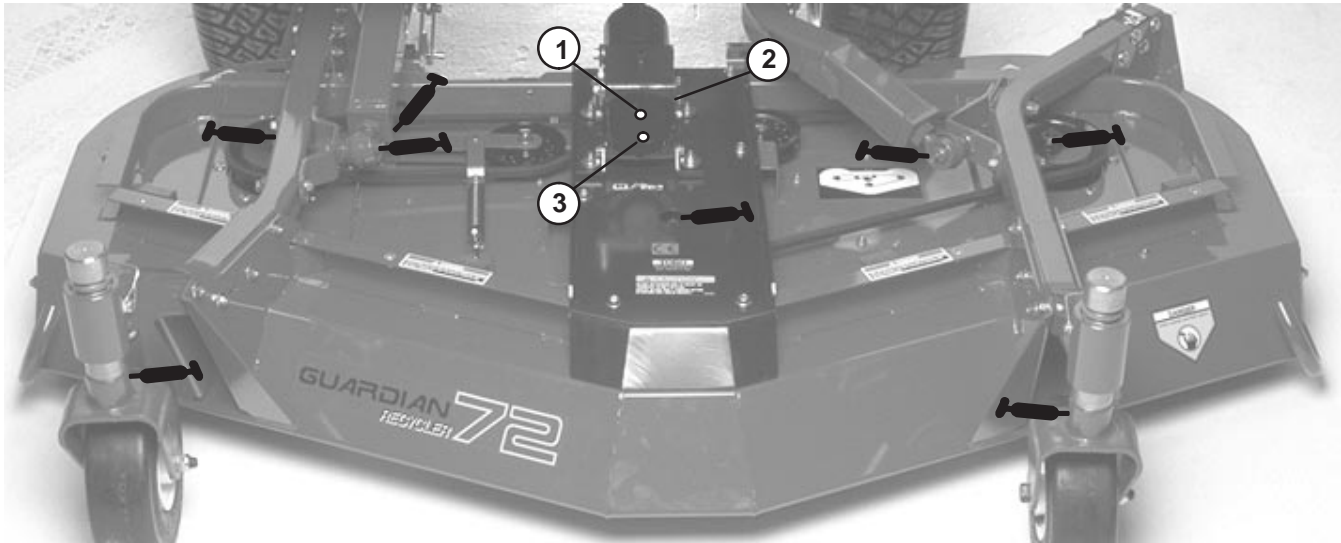

Figure 16
1. The cutting unit has bearings and bushings that must be lubricated, and these lubrication points are: front castor shaft bushings (2), blade spindle bearings (3), idler arm pivot and right and left push arm ball joints (Fig. 16).